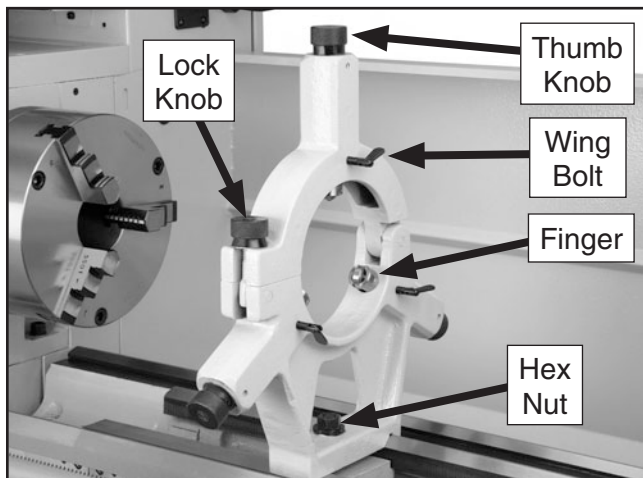

Figure 46. Steady rest adjustments.
2. Loosen the three wing bolts knobs so the finger positions can be adjusted (**Figure 46**).
3. Adjust the three thumb knobs (**Figure 46**) so the workpiece diameter can be accepted.
5. Position the steady rest where desired. Tighten the hex nut at the base of the steady rest (**Figure 46**) to secure the rest in place.